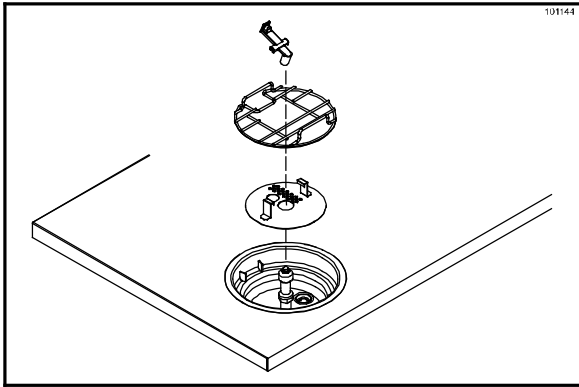

Figure 88
36. Reinstall the rinse station assembly (strainer, grate, and actuator). (See Figure 88.)